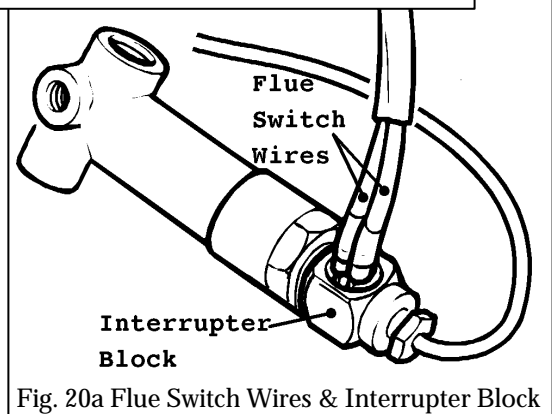

Fig. 20a Flue Switch Wires & Interrupter Block
16.12.2 Loosen the thermocouple connection to the interrupter block and detach the flue switch wires (see fig. 20a).